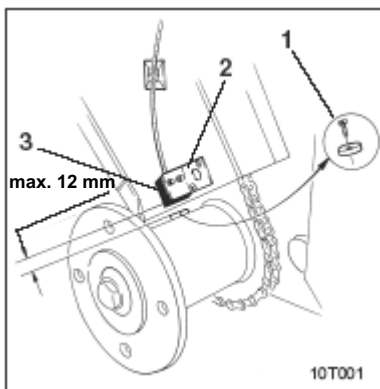

Fig. 9.3
- Magnet (Fig. 9.3/1) onto the drive axis
- Sensor holder (Fig. 9.3/2, Order no.: 950725) with sensor "HA" (Fig. 9.3/3) next to magnets (Fig. 9.3/1).